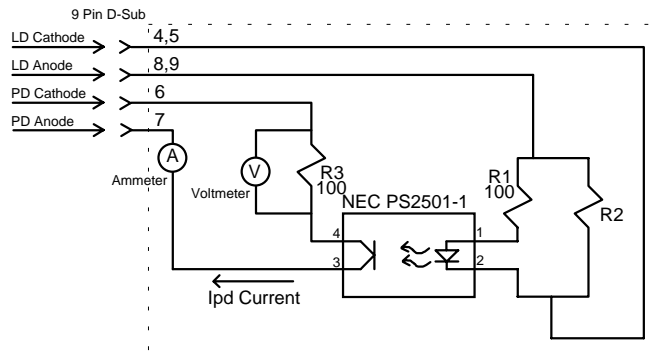

Figure 30 - I_{PD} Calibration Circuit
- a. With the laser output off, connect a calibrated ammeter to the PD Anode output of the module and connect the circuit of Figure 30 to the laser and PD outputs.
If a calibrated ammeter (with 0.1 μA resolution) is not available, place a calibrated DMM (with 0.1 mV resolution) to measure the voltage across the resistor, R3, as shown in Figure 30. Calculate the current in the following steps by using Ohm's Law:
- a. With the laser output off, connect a calibrated ammeter to the photodiode anode output of the module and connect the circuit of Figure 30 to the laser and photodiode outputs.
If a calibrated ammeter (with 0.1 μ A resolution) is not available, place a calibrated DMM (with 0.1 mV resolution) to measure the voltage across the resistor, R_3 , as shown in Figure 30. Calculate the current in the following steps by using Ohm's Law: